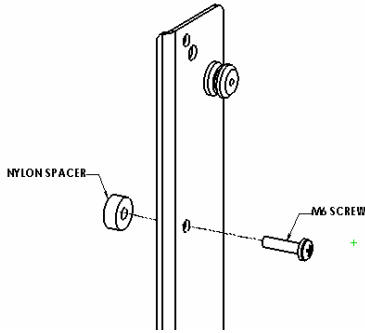
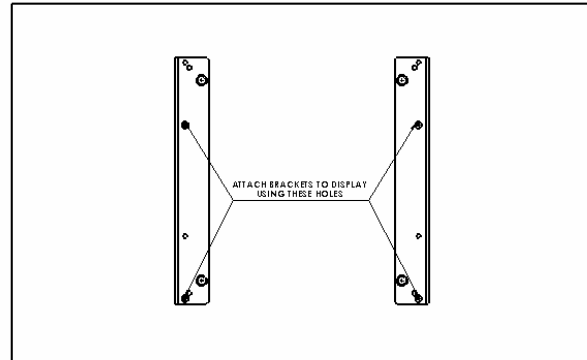

Figure 4
Figure 5
2. Place .313" nylon spacers (white) over mounting holes on back of screen. Attach mounting brackets to the display using the M6 x 25mm screws (see Figure 4 & Figure 5). If screen has a protrusion on back, stack .313" (white) and 20mm (black) spacers and attach brackets using the longer M6 x 45mm screws.